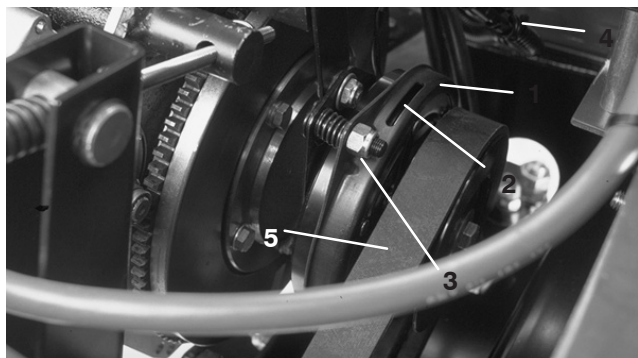

Figure 42
2. Unplug clutch electric connector (Fig. 42).
3. Adjust the air gap so that a .015 inch feeler gauge slides in between the clutch lining and friction plate with light pressure (Fig. 42). The gap can be decreased by turning the adjusting nut clockwise (Fig. 42). The maximum service gap is 0.030 inch.